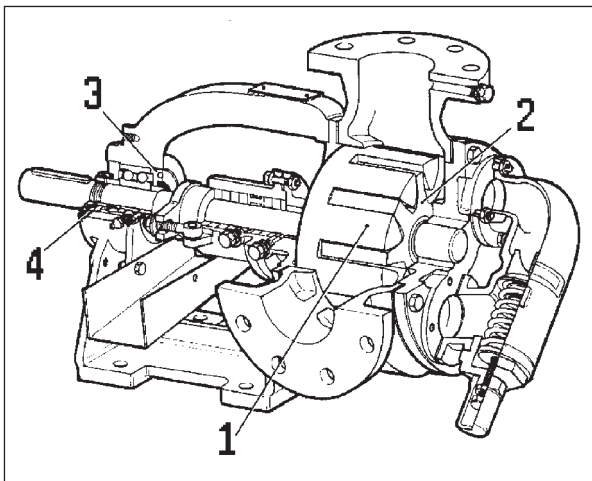

fig. 1
V series pumps are rotary positive displacement pumps. The rotation of two gears, one inside the other (items 1 and 2 in figure 1) create spaces which are subsequently closed when the gears mesh.
Figure 1 shows that the idler gear rotates inside the liquid and is therefore easily lubricated, unlike other types of pumps which use other bearing systems, including external bearings.
This is done by positioning the two threaded lock rings which lock the rear bearing (items 3 and 4 in figure 1). The position of the rotor with reference to the cover is adjusted by changing the axial position of the ball bearing. For further details refer to the instructions for the use of the various models.